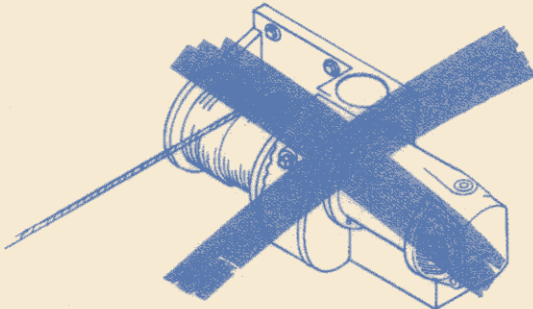

FIG. 3. Incorrect oil distribution (filler plug)
4. **CAUTION:** Do not mount in the position shown in figure 3, which will prevent proper lubrication because one gear combination will be above the oil level. All other horizontal and vertical positions are acceptable, including the upside-down position.